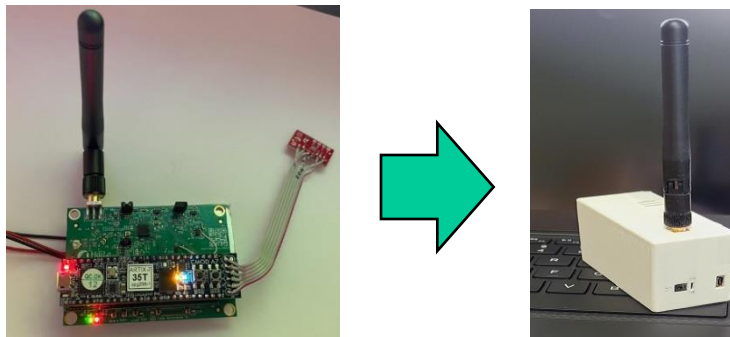

Figure 5
- 802.11 compatible backscatter prototype(Figure 5) [15]